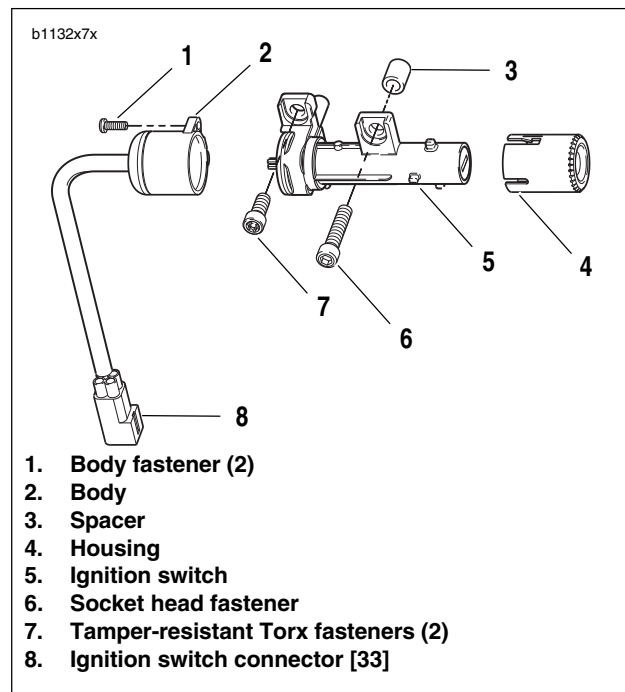

Figure 7-5. Ignition Switch Assembly
1. See Figure 7-5. Remove ignition switch housing (4) from ignition switch (5) by prying tabs on side of housing
2. Remove ignition switch body fasteners (1). Separate ignition switch body (2) from ignition switch (5).
See Figure 7-5. In next step, be sure wide slot in ignition switch housing (4) is installed over wide boss on ignition switch (5).
1. Push ignition switch housing (4) on to ignition switch (5).